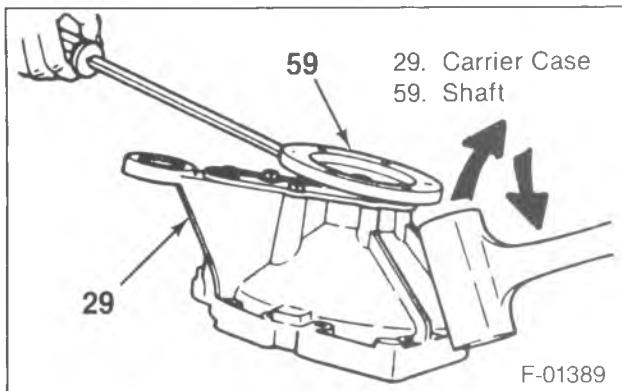
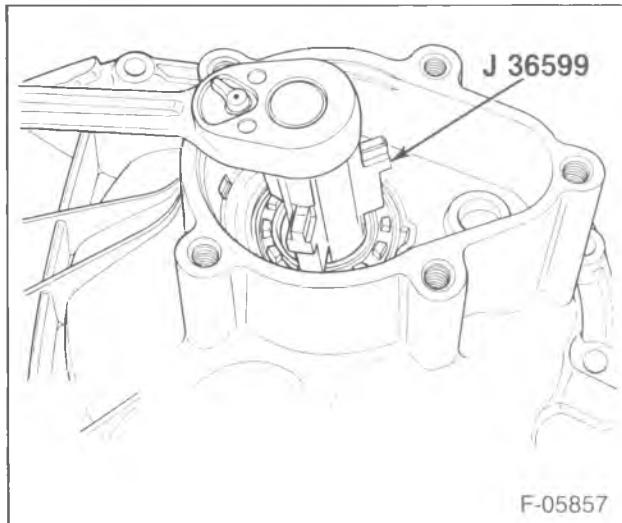

Figure 8—Removing the Left Shaft
Figure 9—Turning the Adjuster Sleeve
13. Shaft (59) with deflector (2). Pry on the shaft flange on one side while tapping with a soft faced hammer on the other side (figure 8).
14. Seal (3). Pry out with a screwdriver.
15. Bearings (30). Use the tools listed in step 10.
16. Bolts (28).
17. Right side carrier half (29). Tap on the cast lugs provided.
- Pry up on the locks (51) (right side only on K35).
19. Bolt (64) and lock (63) (K35 models).
20. Sleeve(s) (32) and side bearing (33) cups (right side only on K35).
- Turn the sleeve(s) to push the bearing cup(s) out of the bore(s). Use J 36599 (figure 9).